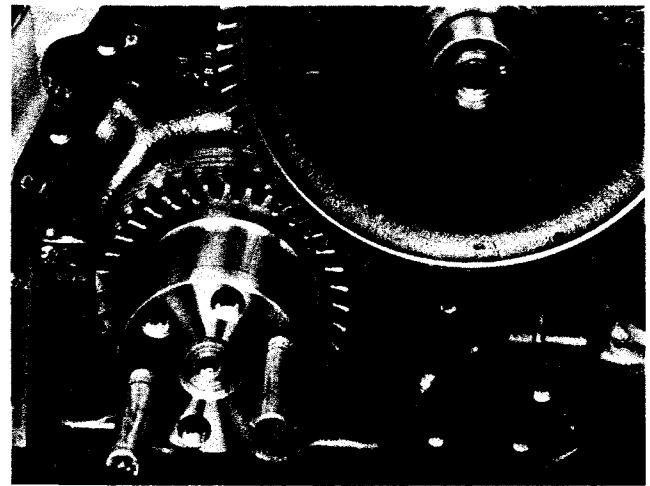

Fig. 14-18, (N114255). Timing marks on camshaft and crankshaft
4. Index timing mark on camshaft gear with mark on crankshaft gear. Fig. 14-18.